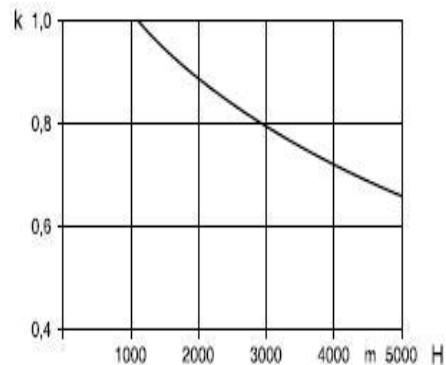

Figure 1:
- At altitudes above 1000 m, effects of the reduction in dielectric strength of air on the insulation level must be taken into account (please refer to graph in fig.1).